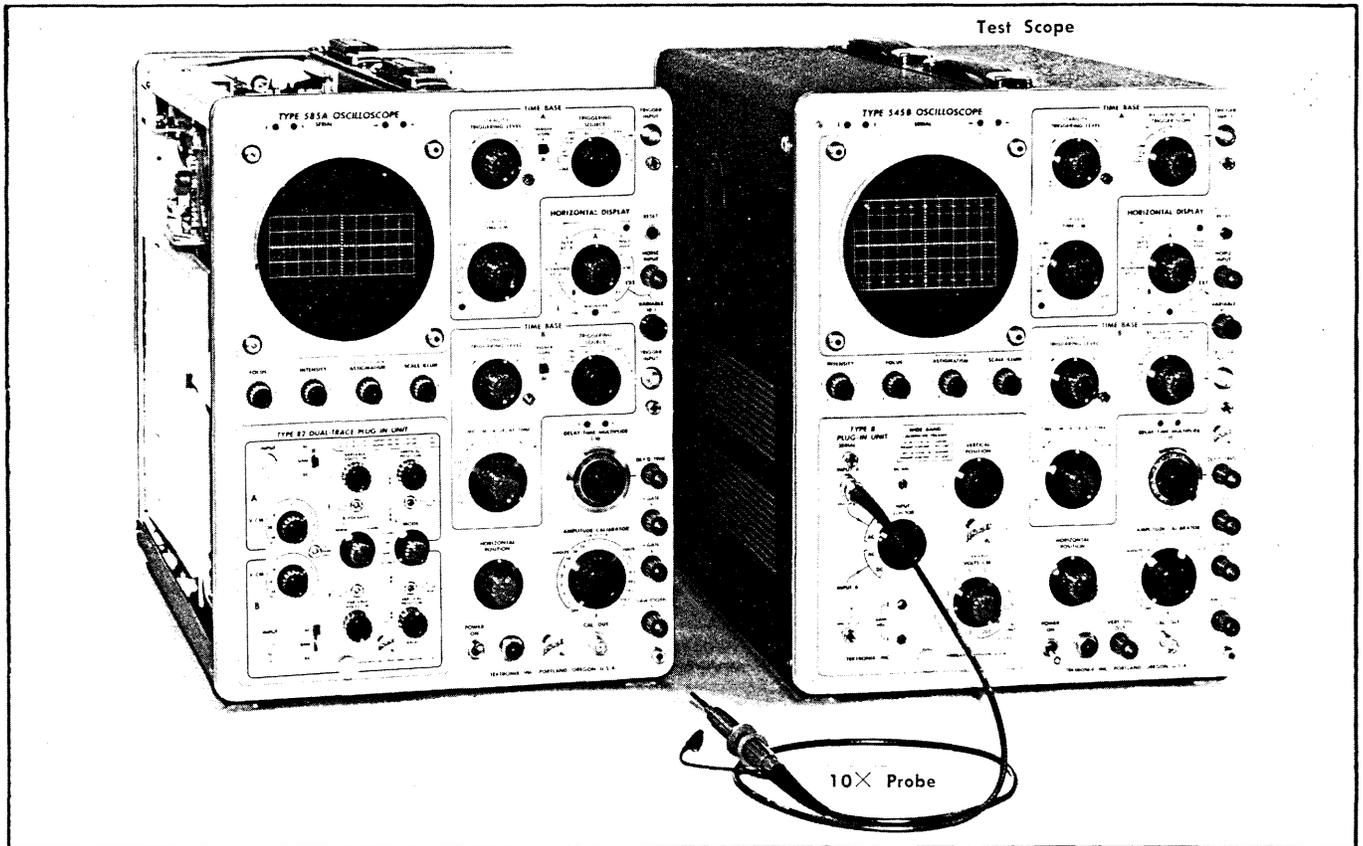

Fig. 6-32. Equipment setup for steps 40 and 41.
a. Test equipment setup is shown in Fig. 6-32.